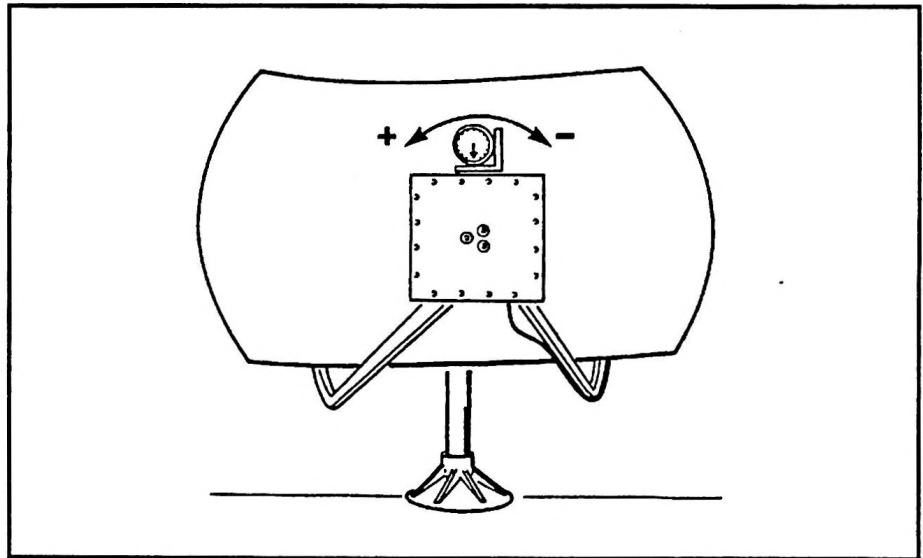

Figure 5-6. Polarization Adjustment
4. Place the inclinometer on the top edge of the downconverter as shown in Figure 5-6. Loosen the feed mounting bracket slightly.